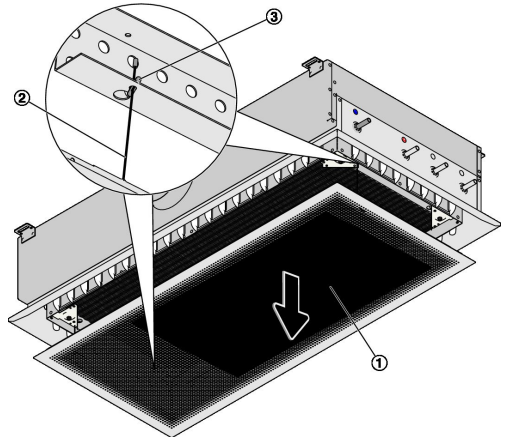

Fig. 14: Opening the induced air grille
- ▶ To open the induced air grille (Fig. 14/1), pull down the grille. To completely remove the grille, unhook the safety cables (Fig. 14/2) by pulling them down with the retaining plates (Fig. 14/3).
2. ▶ Loosen the Allen screws (SW4) (Fig. 14/4) of the flat adjustment bar (Fig. 14/1).
- small nozzle open (Fig. 14/2) (DS)
- large nozzle open (Fig. 14/3) (DB)